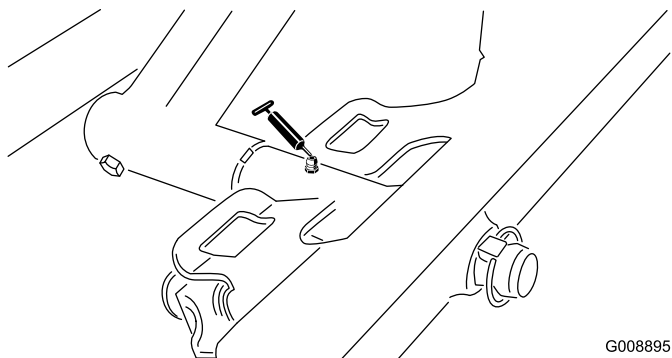

Figure 37
- Front cutting unit pivot (Figure 37)